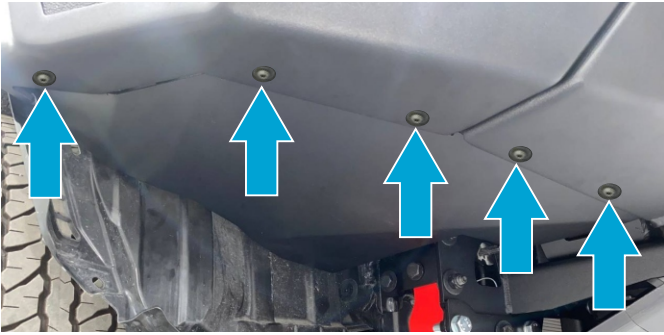

Fig.120
109. Install cage nuts M6 (item G) on flaps (items 4, 5) (fig.120).
110. Install flaps and secure them using screws M6x20, washers M6 (items B, I1) (fig.120) on both sides of the vehicle